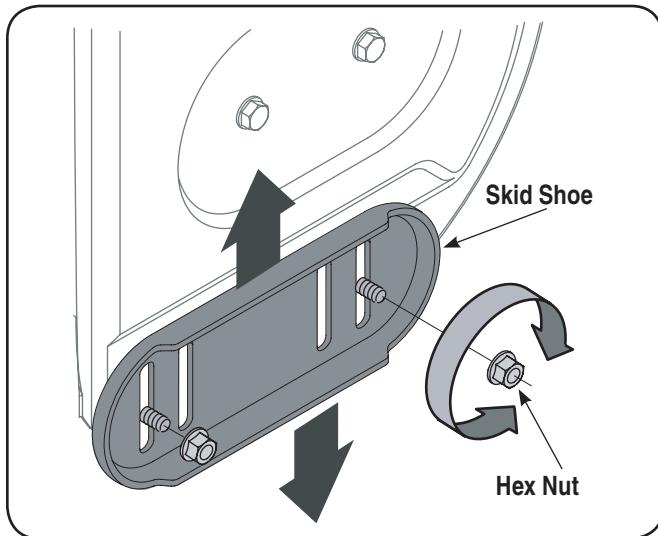

Figure 3-22
- Loosen the four hex nuts (two on each side) and carriage bolts. Move skid shoes to desired position. See Fig. 3-22.